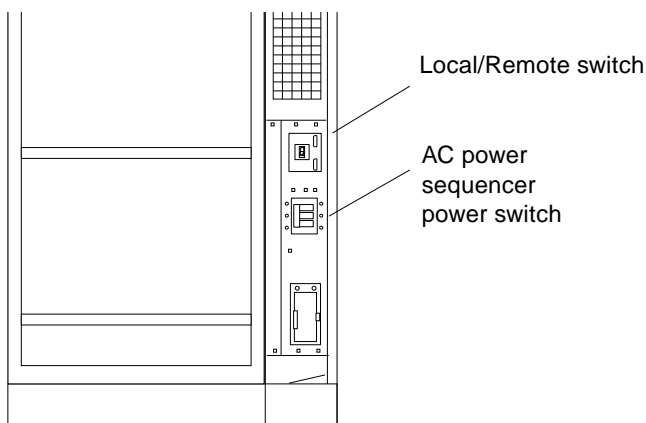

FIGURE 1-2 AC Power Sequencer—Rear View
- FIGURE 1-2 AC Power Sequencer—Rear View 3